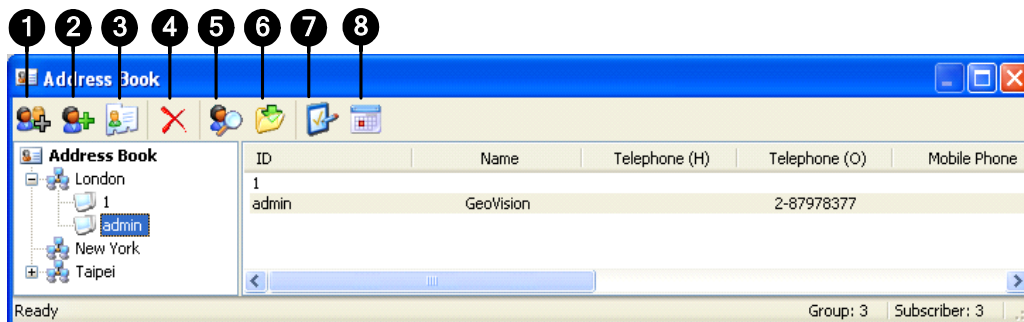

Figure 9-2 Subscriber Information
1. Click the **Add A Group** button (No. 1, Figure 9-2) to create a group.
2. Click the **Add A Subscriber** button (No.2, Figure 9-2). The Subscriber Address Book dialog box appears.
6. The options in the dialog box are discussed below. You may accept the default settings here, and edit them later by clicking the **Subscriber Settings** button (No. 6, Figure 9-2) on the toolbar. When you click the **OK** button, the subscriber account then is created.
2. Highlight one subscriber, and click the **Subscriber Schedule** (No. 8, Figure 9-2) to display the Schedule window.